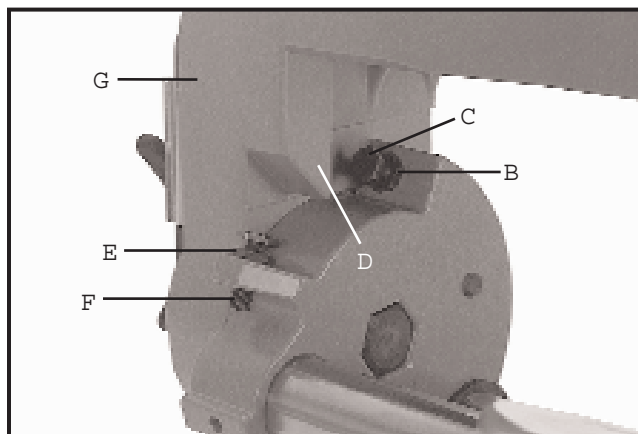

Fig. 29
4. If an adjustment is necessary, loosen bevel lock handle. Then loosen locknut (B) Fig. 29, and turn adjusting screw (C) until head of screw (C) contacts inside of casting (D) when blade is 90 degrees to the table. Then tighten locknut (B).
8. If an adjustment is necessary, loosen bevel lock handle. Then loosen locknut (E) Fig. 29, and turn adjusting screw (F) until head of screw (F) contacts surface (G) when blade is 45 degrees to the table. Then tighten locknut (E).